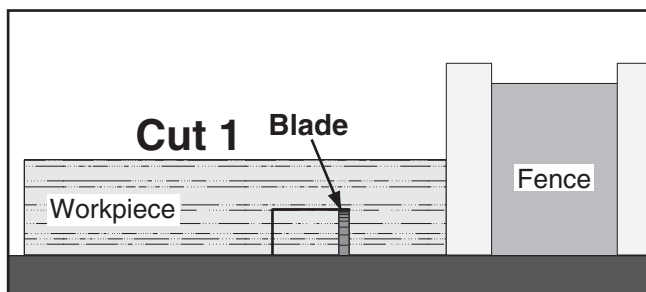

Figure 59. First cut for a single-blade dado.
- Align blade to cut one side of dado, as shown in **Figure 59**.